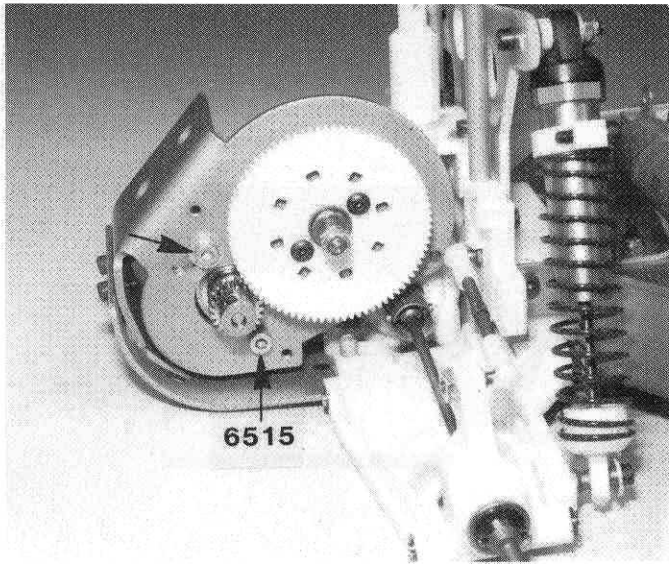

Fig. 117
□ **Fig. 117** In the motor bag are two #6515 gold, metric, motor mounting screws. These screws have finer threads, 3mm, and are used **ONLY** to mount the motor. Slip the motor in the motor mount and start the bottom screw in first. Do not tighten all the way down yet. On the top screw, put a #6936 aluminum #4 washer on the screw and screw it in, but not tight. Now we'll set the gear mesh. By moving the upper screw, forward or back, we'll be moving the motor closer to, or away from the plastic spur gear. What we want to do is to get the metal pinion gear as close to the plastic spur gear as we can without binding up the gears. The easy way to check this is to put your finger on the plastic gear and see if you can rock it in the teeth of the metal gear. The two gears should be as close as possible, while still being able to very slightly rock the plastic gear.